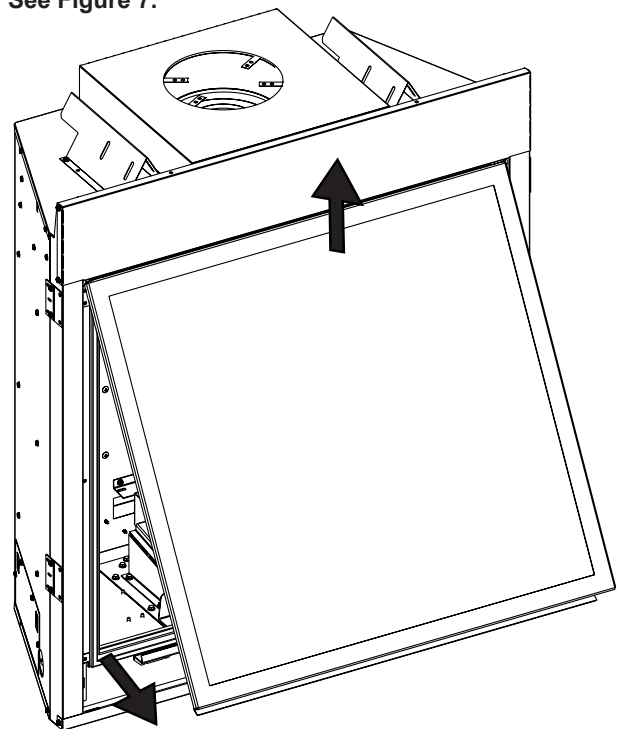

Figure 7
3. Disengage glass frame by pulling in upward swinging position. Place glass frame aside in a safe and out-of-the-way location. **See Figure 7.**